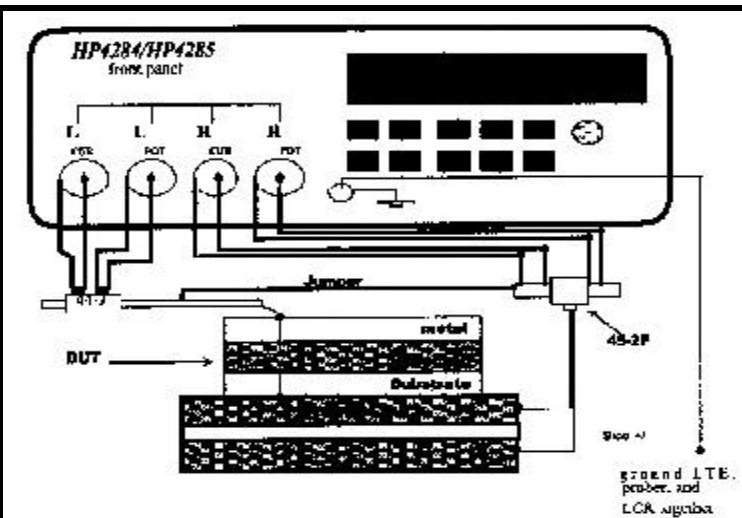

Figure 9; Hook-up for probe station without Kelvin wiring.
Figure 9 shows the recommended hookup for probe stations that are not configured with Kelvin wiring
(force and sense connections). Figure 9 also shows the use of Micromanipulator part number "45-2F". 45-2F is an adapter that has two (2) female UMC connections and one (1) male UMC connection as illustrated by figure 7.